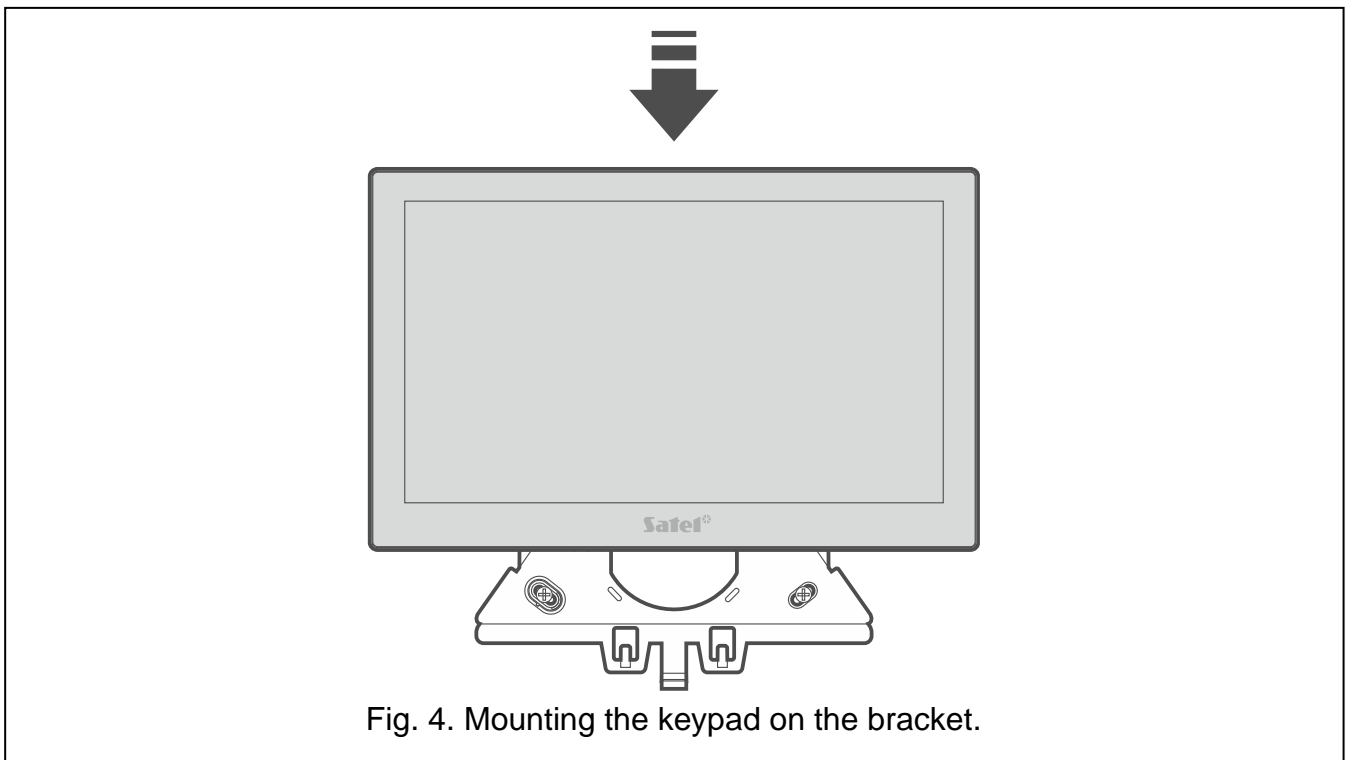

Fig. 4. Mounting the keypad on the bracket.
8. Mount the keypad on the bracket (Fig. 4).
10. Mount the keypad on the bracket (Fig. 4).